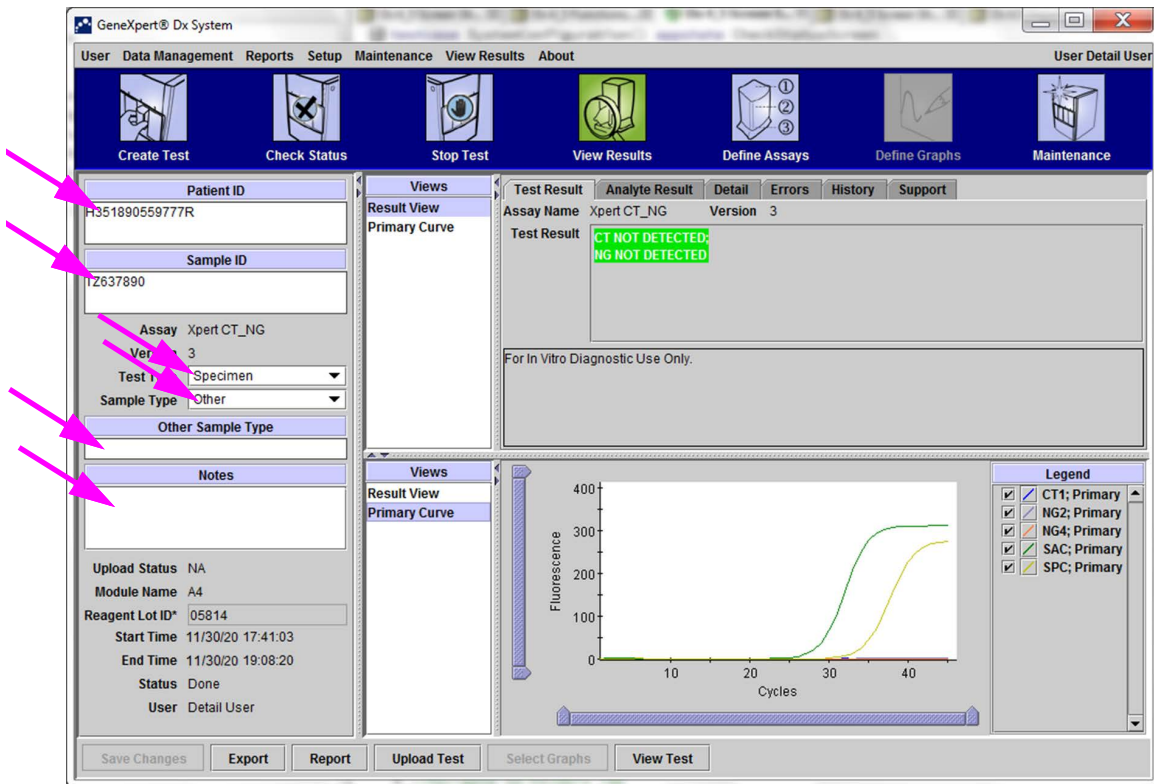

Figure 5-42. GeneXpert Dx View Results Window (Detail Users and Administrator View)
For each test, you can edit the Patient ID and Patient ID 2 (if they are enabled), Sample ID, Test Type, Sample Type, Other Sample Type, and Notes. To do this, in the View Results window (see Figure 5-42), edit the Sample ID, Test Type, Sample Type, Other Sample Type and Notes (see Figure 5-42). Sample IDs cannot include the following characters: | @ ^ ~ & / : * ? " < > ' \$ % ! ; () -.
1. In the GeneXpert Dx System window, click **View Results** on the menu bar. The **Test Result** tab is displayed. See Figure 5-42.